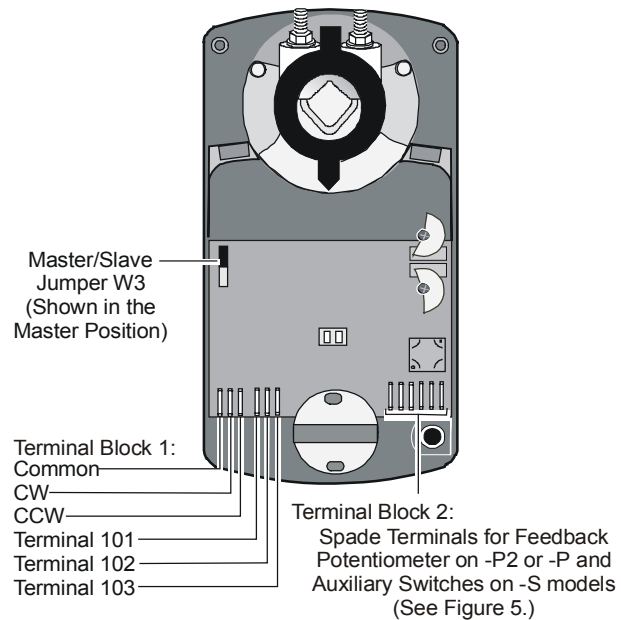
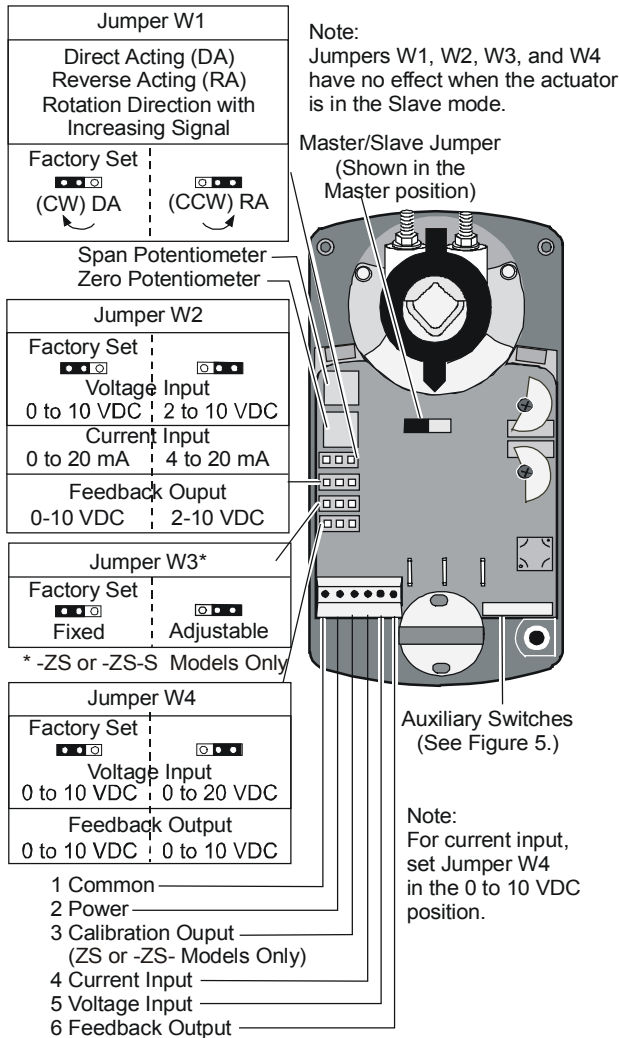

Figure 7: Settings on C2 Floating Models
Figure 8: Settings on B2 Models
The Master/Slave Jumper comes factory set in the master position. Determine the method for mounting the two actuators in tandem: front-to-back (Figure 7 shows the front view) or back-to-back, and proceed as follows:
2. Connect Terminal 101, Terminal 102, and Terminal 103 from the master actuator to the corresponding terminals on the slave actuator. (See Figure 7 for floating models and Figure 8 for the proportional models.)
- For the **C2 floating models**, connect the input control signal to the common, CW, and CCW terminals on both the master and the slave actuators. (See Figure 7.)
Note: Set the master actuator jumpers on the **proportional models** according to the action and signal range desired before proceeding. (Refer to Figure 8 and the *Setup and Adjustments* section.)
2. Move Jumper W1 from the factory set DA position to the RA position. (See Figure 7.)
C2 models come factory set with the Master/Slave Jumper in the master position, and have no additional jumpers. **B2 and E2 models** are factory set with Jumper W1 in the DA position. The **B2 models** have additional jumpers factory set as follows: Jumper W2 is in the 0 to 10 VDC or 0 to 20 mA position, and Jumper W4 is in 0 to 10 VDC position. (See Figure 8.)